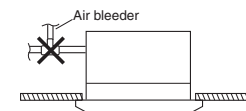

Fig. 3-26
- Do not install an air bleeder as this may cause water to spray from the drain pipe outlet. (Fig. 3-26)